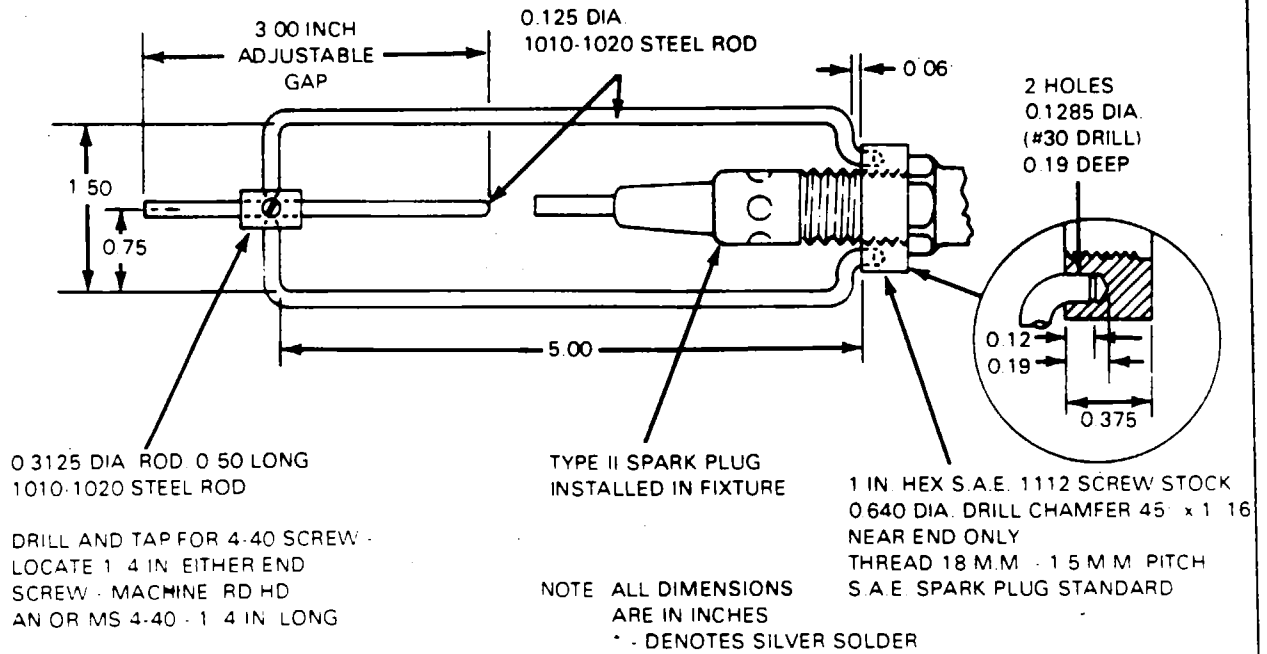

Figure 13-9. Spark Plug Fixture
- d. A spark gap of 0.187 inch \pm 0. A convenient means of arranging the correct spark gap is to install a spark plug, P N 39D18, in a test fixture arranged to provide a ground electrode and a .187 inch spark gap. (Refer to Figure 13-9 for information on fabricating this fixture.)
Any one of several spark plugs may be used with the spark plug fixture detailed in Figure 13-9. However, the "A" dimension in that sketch must be varied with the length of spark plug electrode to provide a gap of .187 inch for all spark plugs.